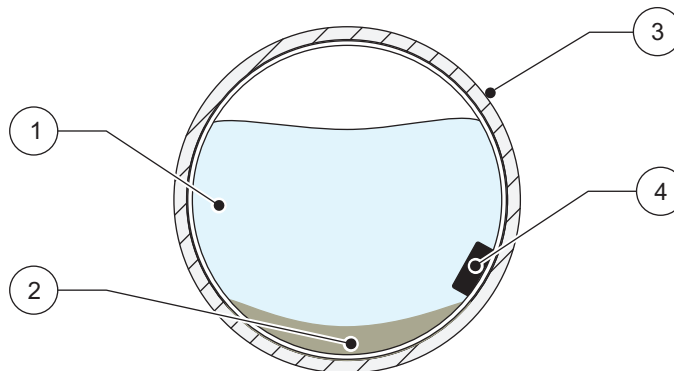

Figure 10 Avoiding Silt when Mounting the Sensor
**Note:** If there is a large amount of silt at the bottom of the pipe, rotate the band until the sensor is out of the silt (Figure 10), assuring that the sensor remains below the minimum expected water level at all times. The silt should not be disturbed and must be measured frequently.